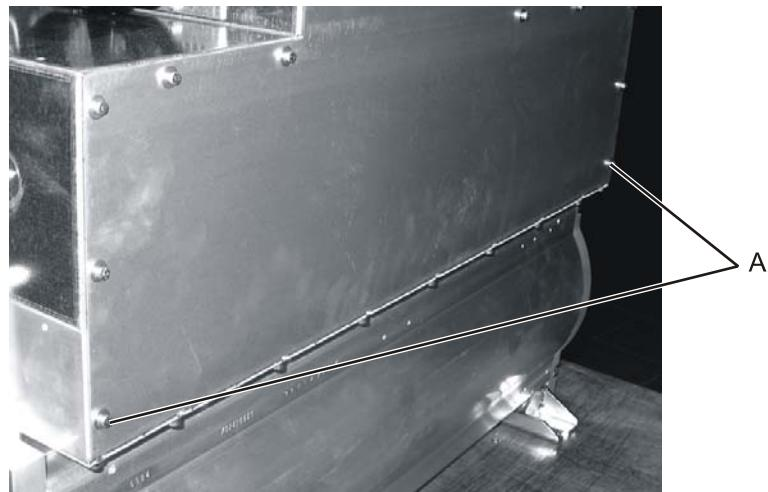

Figure 32: EMI housing rear securing screws
47. Use the 3 mm allen key to unscrew the two screws securing the EMI housing at the rear (see Figure 32, A).
55. Use the 3 mm allen key to insert and tighten the two screws securing the EMI housing at the rear (see Figure 32).